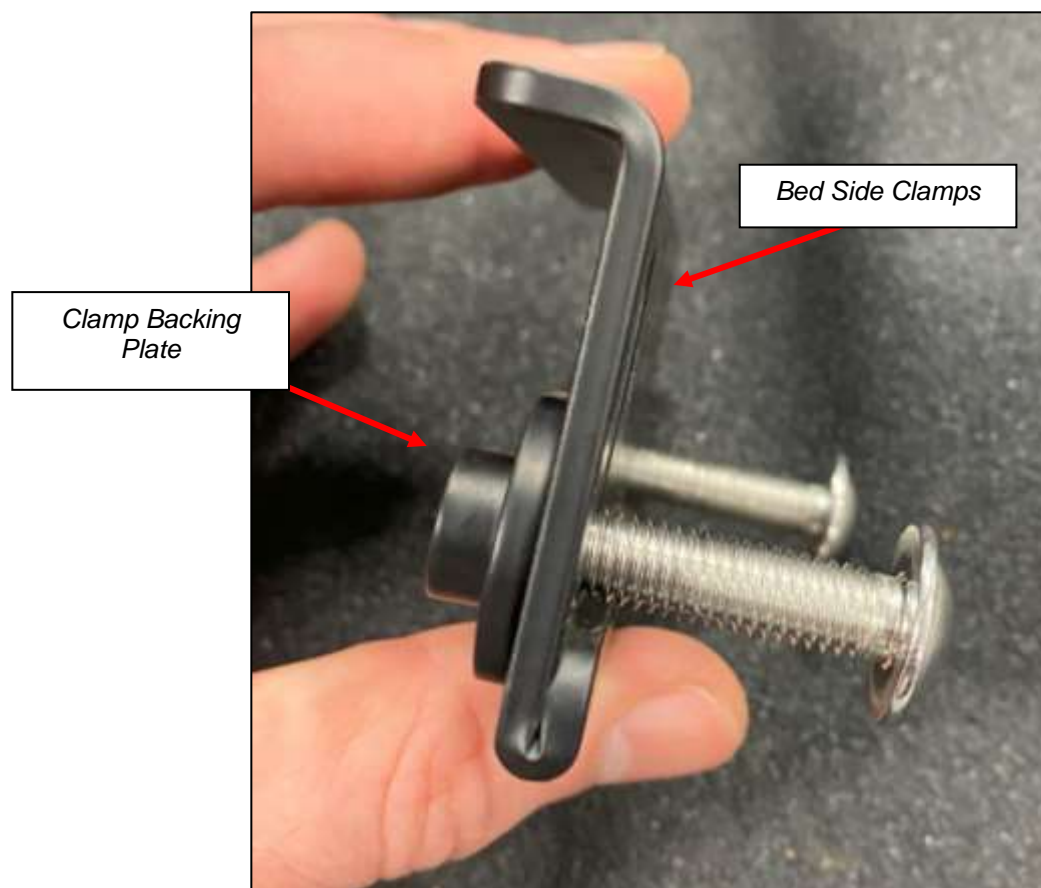

Figure 7
9. Locate (4) four Bed Side Clamps, (4) four Clamp Backing Plates, and (8) eight M8 x 1.25 Button Head Screws, 35mm. Use *Figure 7* below as a reference for the order.